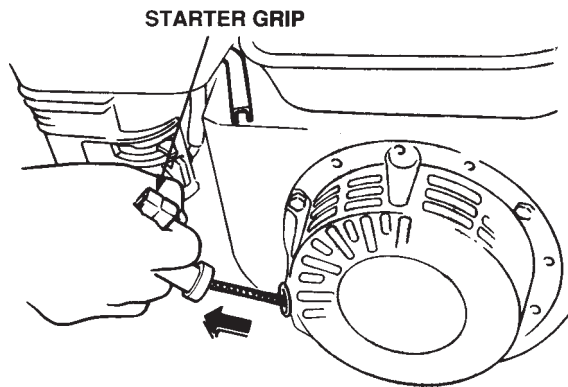

Figure 14. Starter Grip
5. Grasp the starter grip (Figure 14) and slowly pull it out. The resistance becomes the hardest at a certain position, corresponding the compression point. Rewind the rope a little from that point and pull out sharply.